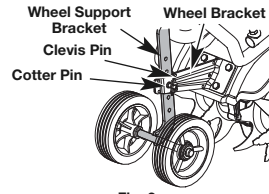

Fig. 2
2. Remove the Clevis Pin and retainer from the wheel bracket (Fig. 2).
4. Secure the wheel support bracket by reinstalling the clevis pin and retainer (Fig. 2).